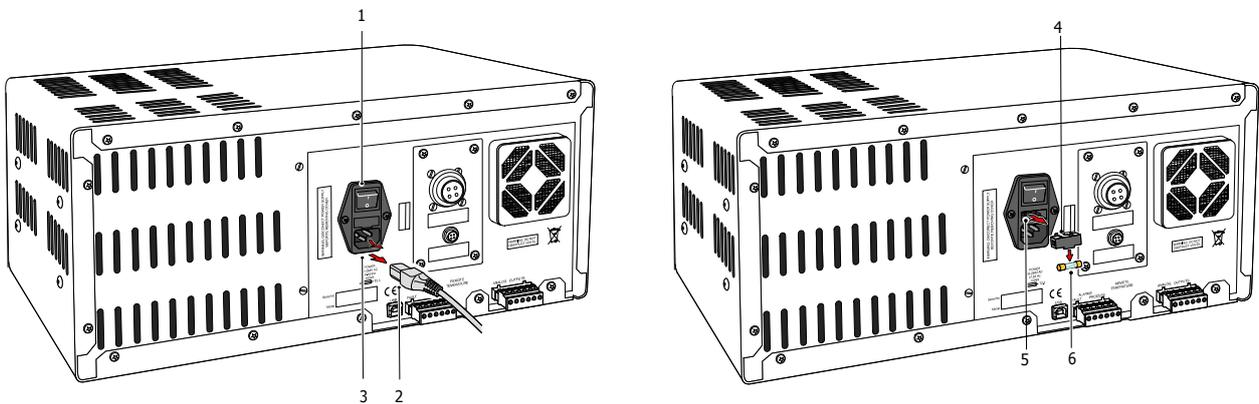

Figure 5.1 Power Supply Fuse Replacement
1. If the power supply cable is equipped with a fused plug, switch off the power supply, remove the plug, check and, if necessary, replace the fuse. If the instrument still fails to operate, after fitting the fuse and switching the power supply on, proceed as follows (see *Figure 5.1*).